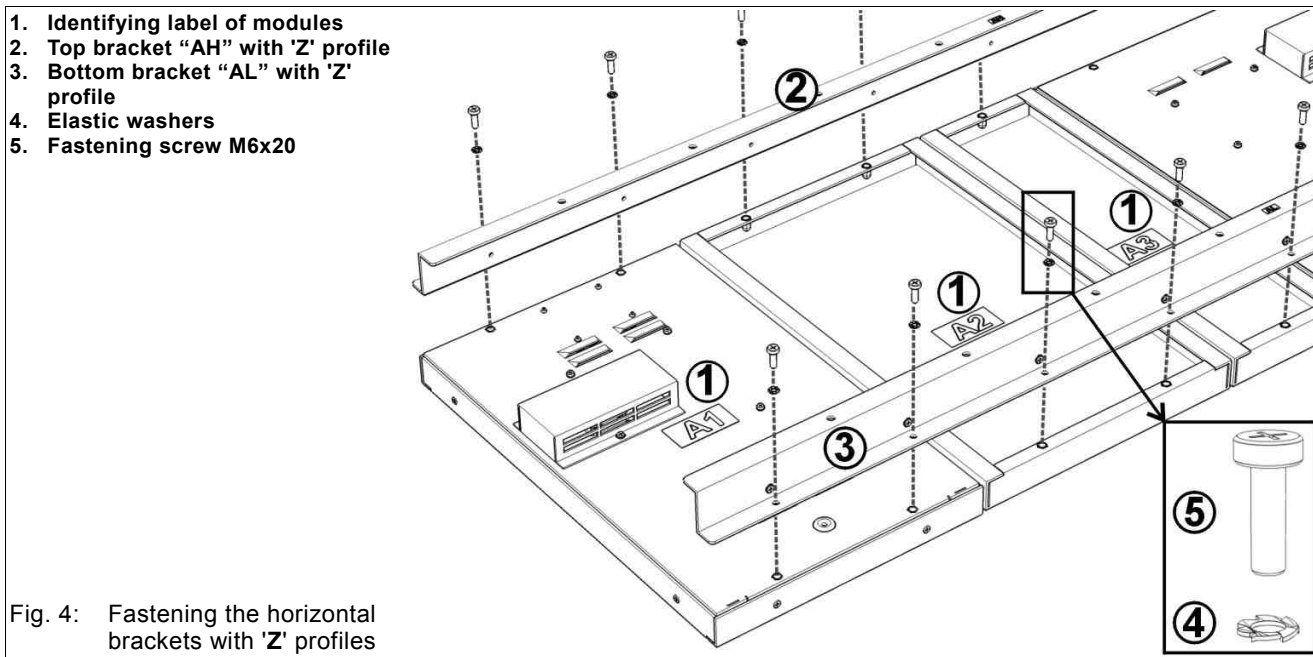

Fig. 4: Fastening the horizontal brackets with 'Z' profiles
3. Place the 'Z' profile bracket with the label “AL” at the bottom edge of the aligned modules so that the fastening holes fit together (see Fig. 4). Then firmly fasten the bracket to the modules by using the **M6x20** screws and washers (Tightening torque: 8Nm). In the example in Fig. 4, modules A1, A2 and A3 correspond to the modules of